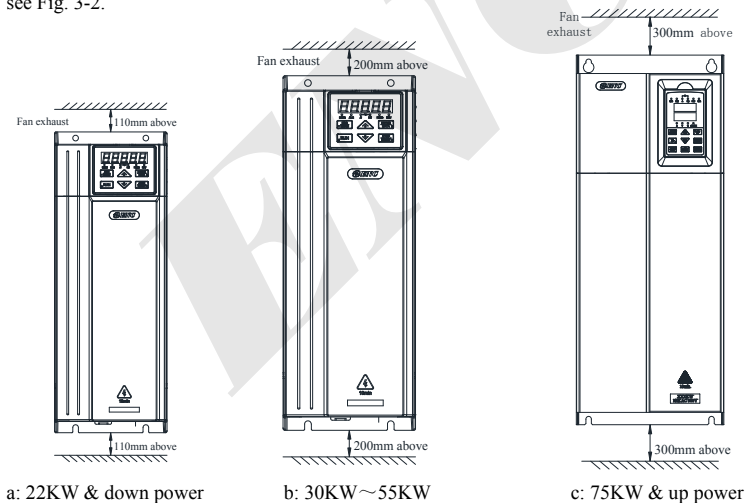

Fig. 3-1 Installation space
- (1) Normally the inverter should be mounted vertically, horizontal mounting will seriously affect heat dissipation and the inverter must be used in lower volume.
- (2) Demand for minimum mounting space and distance, please see Fig.3-1.